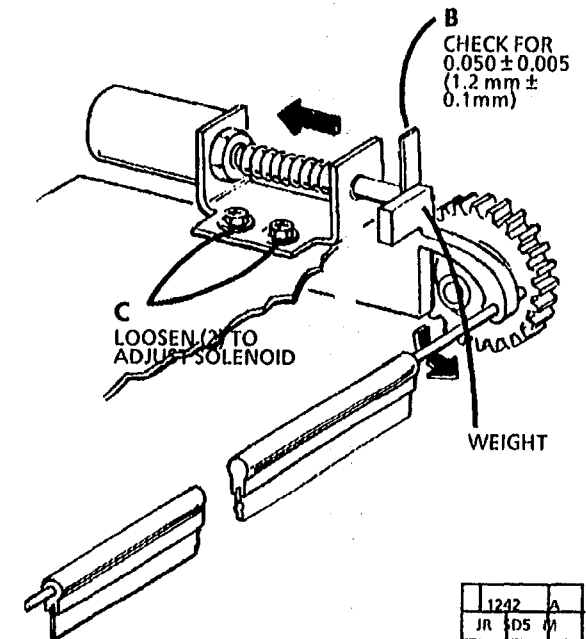

Figure 2. Adjusting the Cleaner Blade Solenoid
4. (Figure 2): Check for 0.050 ± 0.005 (1.2 mm ± 0.1 mm) between the plunger and the weight.
5. (Figure 2): Adjust the cleaning blade solenoid.